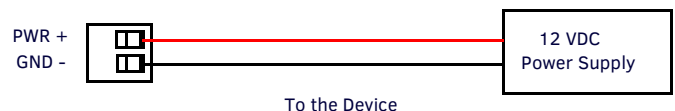

FIG. 2 12 VDC POWER CONNECTOR WIRING DIAGRAM
- The PWR and GND cable from the 12 VDC power supply must be connected to the corresponding location on the 2-pin 3.5 mm mini-captive wire connector (FIG. 2).